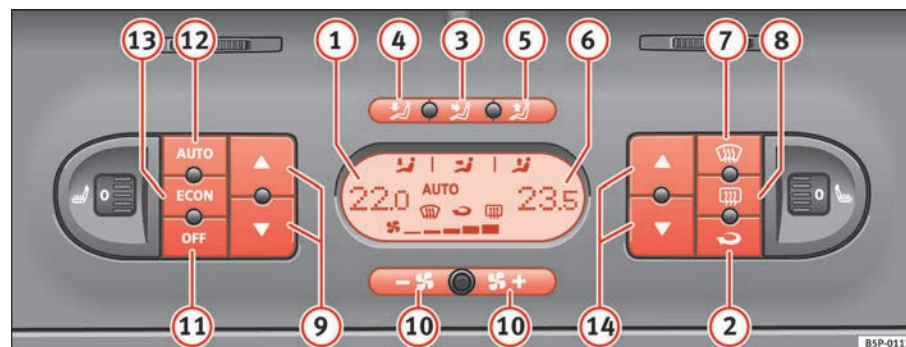

Fig. 130 On the dash panel: 2C Climatronic controls
- Press the temperature control buttons ⇒ **page 155, fig. 130** ⑨ or ⑭ in order to adjust the temperature on the left hand side or the right hand side respectively.
- Press the button **AUTO** ⇒ **page 155, fig. 130**. “AUTO” is shown on the display. ▶